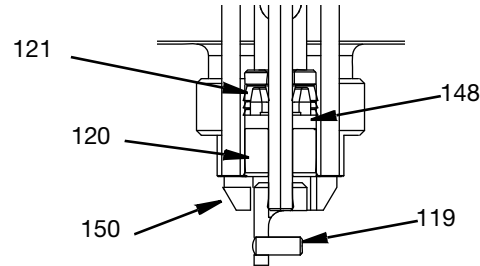

FIG. 47
1. Install the upper shaft bearing (143) into the check valve housing (109).
2. Install retaining ring (118) making sure it is fully engaged in the ring slot.
3. Insert the rotary seal (121) into the cavity of the check valve housing (109) using the insert tool (142). **NOTE:** Orientation of rotary seal (121) seal spring faces outward.
4. Pack the cavity with lubricant grease (148). See FIG. 47. Using the insert tool (142), install the lower shaft bearing (120) so it is flush with the housing end.